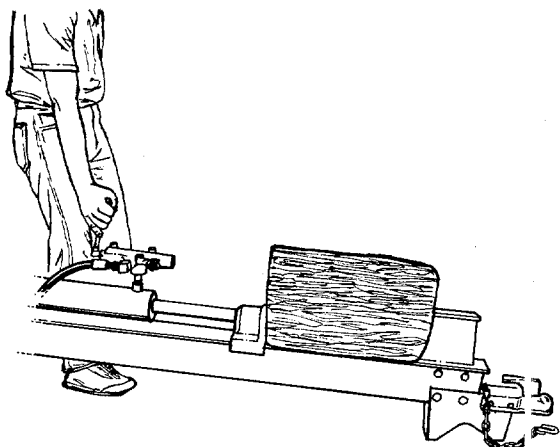

FIGURE 10.
Use the log splitter only on a level, hard surface. **Never stand next to the ram when operating the log splitter. Always stand behind the ram.** See figure 10. Never attempt to cut a log in half sideways. Always split the log lengthwise. Maximum length of log to be split is 25".
4. Remove your hand from the log and step behind the ram. See figure 10.